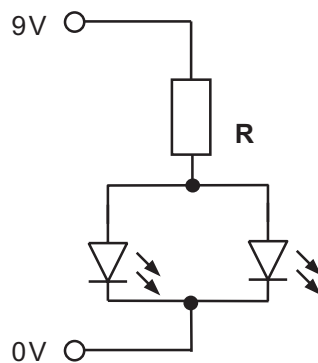

Fig. 9(b)
- (i) Calculate the value of resistance **R** required to allow the LEDs in **Fig. 9(b)** to function when operating at the maximum current. [3]
- (ii) Calculate the power dissipation in mW, of the resistor **R** in **Fig. 9(b)** when the maximum current is flowing. [2]